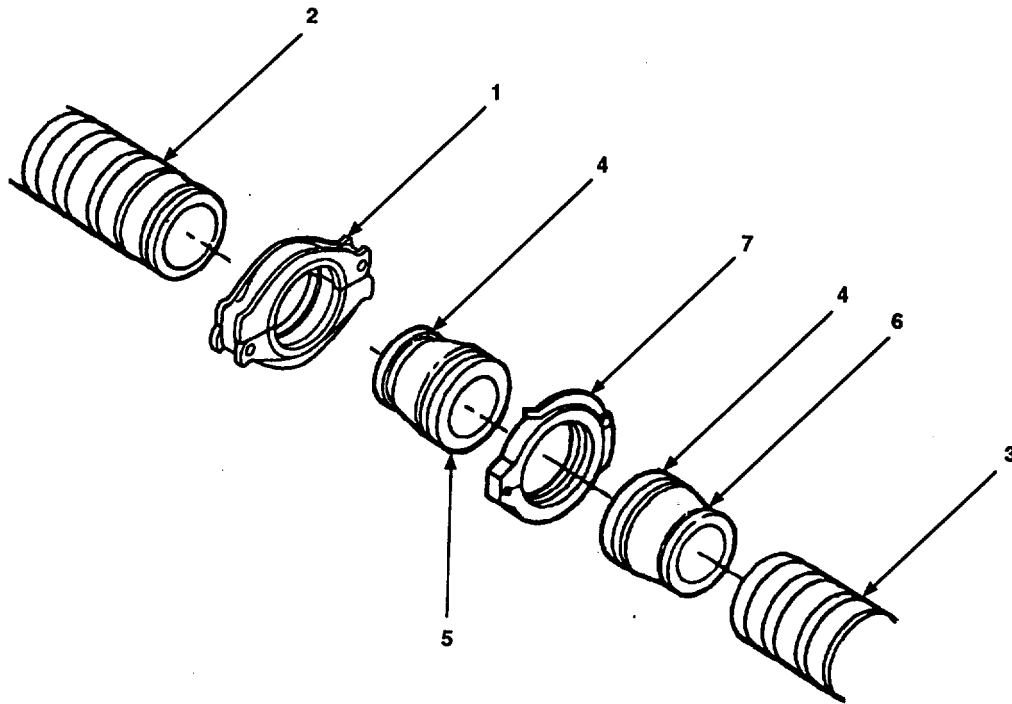
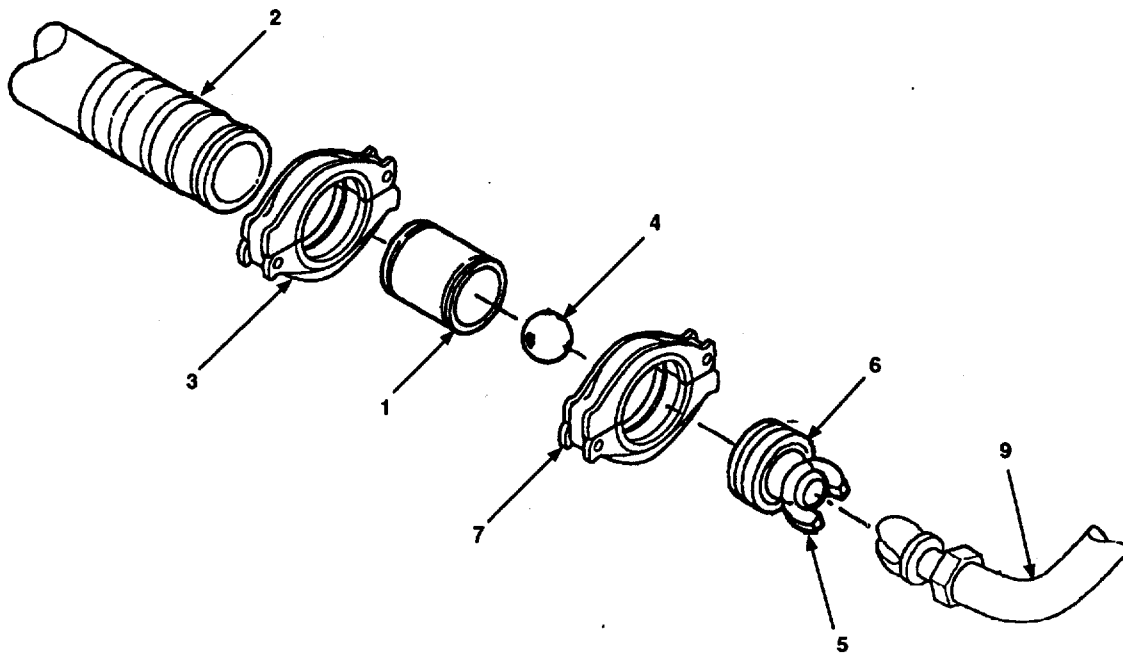

Figure 2-55. Ball Receiver Installation.
Figure 2-56. Pneumatic Coupler Installation.
- a. Remove grooved-end pipe quick disconnect coupling clamp (Figure 2-55, 1) (para 2.3.3.1) connecting end of hoseline segment (2) to next downline hose segment (3) or swivel joint.
- c. Locate ball receiver (4), consisting of two 8 X 6 inch reducers (5 and 6). One reducer (6) has been modified to prevent displacement ball from being ejected from ball receiver (4).
- d. Connect 6 inch end of unmodified reducer (5) to downline end of first hoseline segment (2) using grooved-end pipe quick disconnect coupling clamp (1) (para 2.3.3.2).
- e. Locate 8 inch snaplock coupling (7). Open coupling.
- f. Fit snaplock coupling halves (7) over joined ends of reducers (5 and 6). Close coupling halves (7) over reducer (5 and 6) ends. Lock snap lock coupling halves (7).
- g. Connect nipple (Figure 2-56, 1) to upline end of first hoseline segment (2) using grooved-end pipe quick disconnect coupling clamp (3) (para 2.3.3.2).
- h. Place displacement ball (4) inside nipple (1).
- i. Locate pneumatic coupler (5) and modified end cap (6) (with tapped hole). Attach pneumatic coupler (5) to end cap (6).
- j. Connect end cap (6) with pneumatic coupler (5) to end of nipple (1). Use grooved-end pipe quick disconnect coupling clamp (7) (para 2.3.3.2) from displacement and evacuation kit.
- k. Locate pneumatic coupler (8). Screw pneumatic coupler (8) into air compressor line (9).
- m. Shut off compressor when displacement ball (Figure 2-56, 4) reaches receiver (Figure 2-55, 3).
- n. Open snaplock coupling (Figure 2-55, 7) connecting two reducers (5 and 6). Pull snaplock coupling (7) back and separate two hinged coupling halves of snaplock coupling (7). Set snaplock coupling (7), displacement ball (Figure 2-56, 4), and modified reducer (Figure 2-55, 6) aside.
- o. Remove grooved-end pipe quick disconnect coupling clamp (1) (para 2.3.3.1) connecting unmodified reducer (5) to hoseline segment (2).
- q. Disconnect air compressor line (Figure 2-56, 9) with pneumatic coupler (8) from pneumatic coupler (5) on end cap (6).